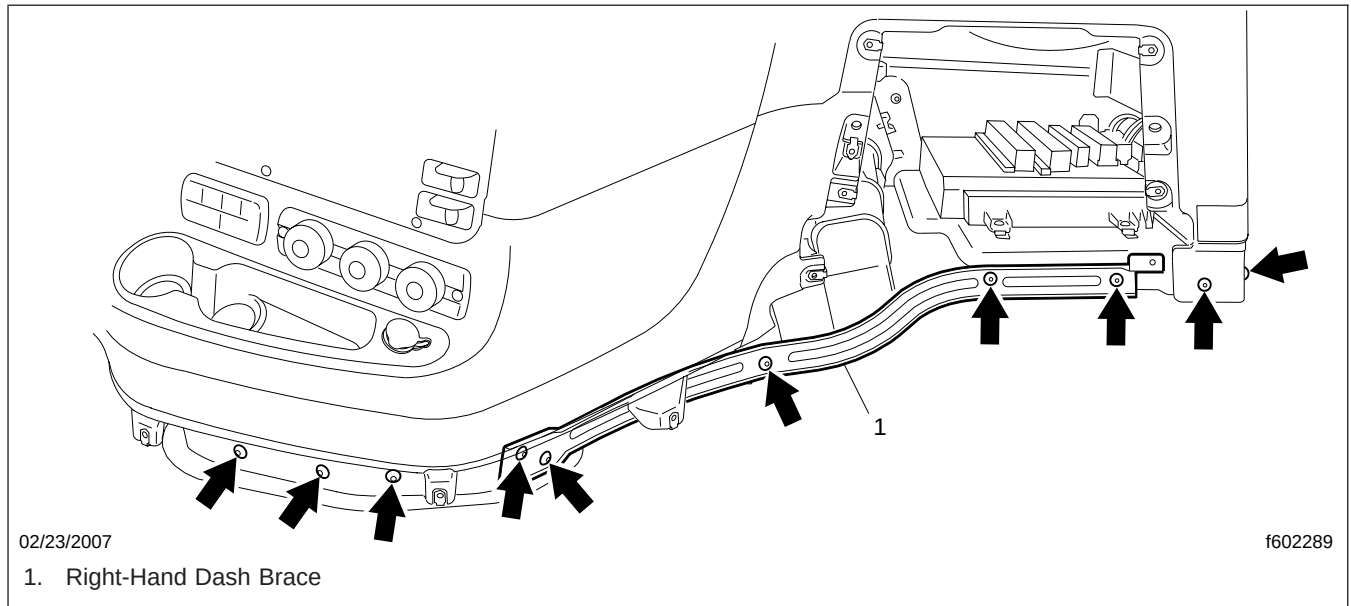

Fig. 6, Lower Dash Fasteners
15. Remove the ten Torx screws along the center and right bottom of the dash. Remove the right-hand dash brace; see Fig. 6.
2. Install the dash with ten Torx screws, along with the right-hand dash brace; see Fig. 6. Tighten the screws 32 to 50 lbf·in (360 to 565 N·cm).